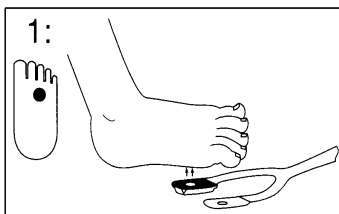

Fig. 44 Sensor placement; detector on the sole of the foot
1. Open the pouch and remove the sensor. Holding the sensor along the length of the "Y", remove the backing from the sensor. Orient the sensor tail so that it is pointed away from the patient. Position the detector onto the fleshy part of the sole of the foot aligned with the middle toe (Fig. 44).